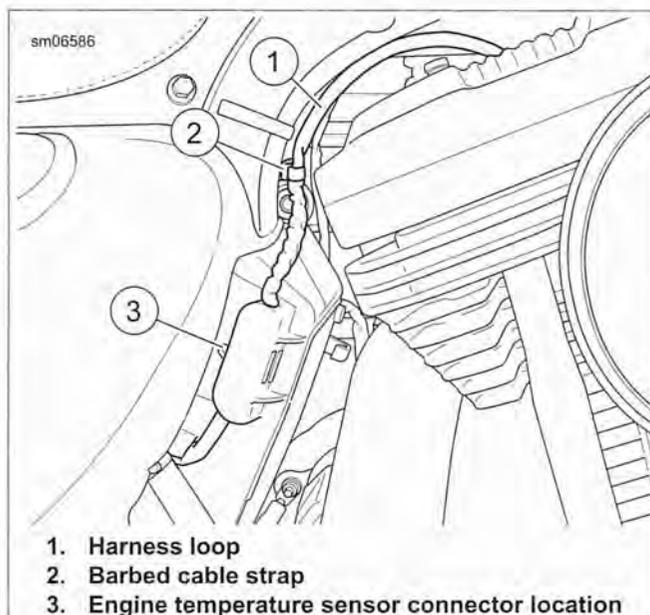
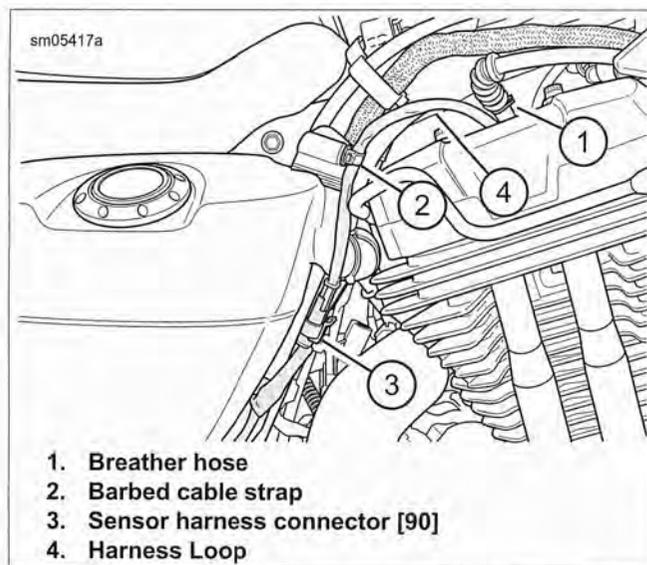

Figure 4-26. Engine Temperature Sensor Harness: XL Models
Figure 4-27. Engine Temperature Sensor Harness: XR 1200X
4. See Figure 4-26 or Figure 4-27. Disconnect the ET sensor connector [90] (3) located on right side of H-bracket/ECM caddy.
5. Cut barbed cable strap (2) to free sensor harness from H-bracket/ECM caddy.
6. **XR 1200X:** See Figure 4-27. Disconnect the breather hose (1) from the rear cylinder to gain access to the sensor.
See Figure 4-26. Make sure there is a loop (4) in sensor harness when securing harness. If harness is pulled tight or contacting the rear rocker cover, it could be damaged during vehicle operation.
4. See Figure 4-26 or Figure 4-27. Use a barbed cable strap (2) to secure sensor harness. Position cable strap so harness forms a loop (4) between sensor and cable strap.
5. Connect sensor connector [90] (3) and secure to H-bracket/ECM caddy.